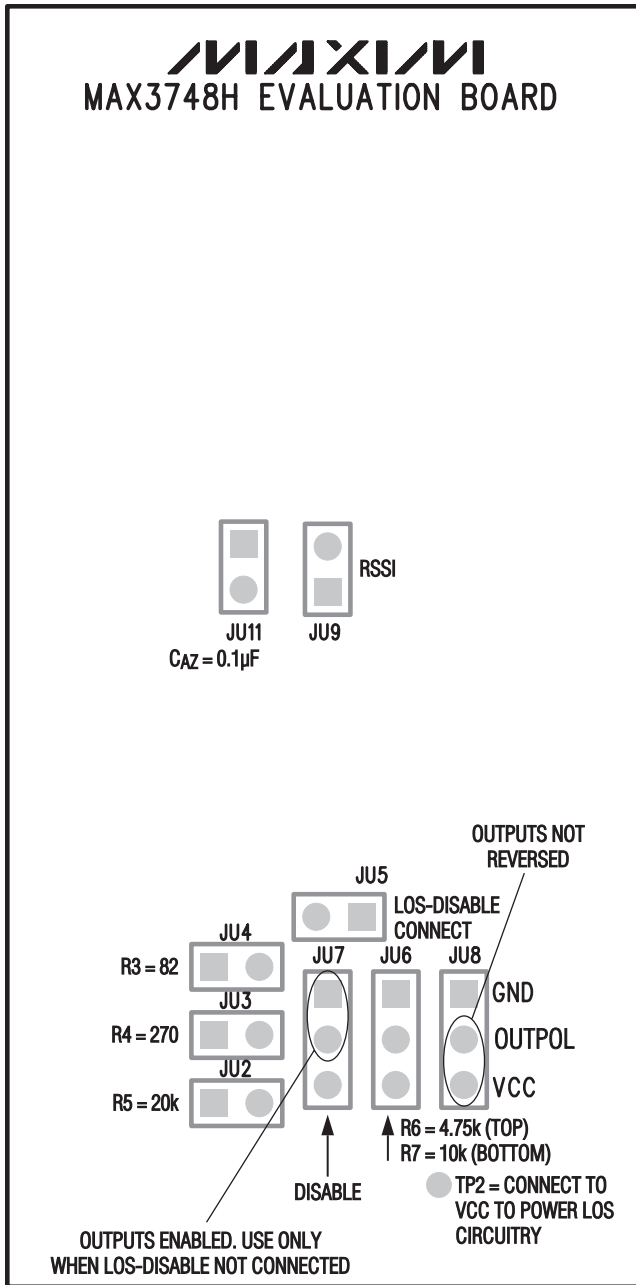

Figure 2. Jumper Diagram
- 4) Shunt JU8 to VCC so that there is no inversion of signal polarity (OUTPOL, VCC). Figure 2 shows the jumper diagram for the board.